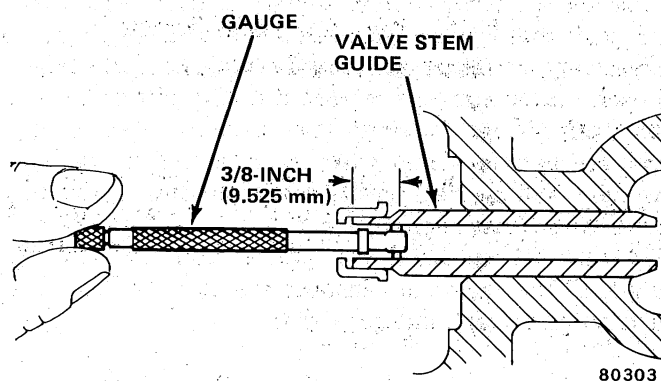

Fig. 1B-107 Measuring Valve Guide Bore with Telescoping Gauge
(1) Remove valve from head and clean valve guide bore with solvent and bristle brush.
(2) Insert telescoping gauge into valve guide bore approximately 3/8 inch (9.525 mm) from valve spring side of head (fig. 1B-107) with contacts crosswise to head. Measure telescoping gauge with micrometer.
(3) Repeat measurement with contacts lengthwise to cylinder head.
(4) Compare lengthwise and crosswise measurements to determine out-of-roundness. If measurements differ by more than 0.0025 inch (0.0635 mm), ream guide bore to accommodate oversize valve stem.
(5) Compare valve guide bore diameter measurement with diameter listed in Specifications. If measurement is larger by more than 0.003 inch (0.076 mm), ream guide bore to accommodate oversize valve stem.
Use a dial indicator to measure the lateral movement of the valve stem with the valve installed in its guide and barely off the valve seat (fig. 1B-108). Correct clearance is 0.001 to 0.003 inch (0.025 to 0.076 mm).